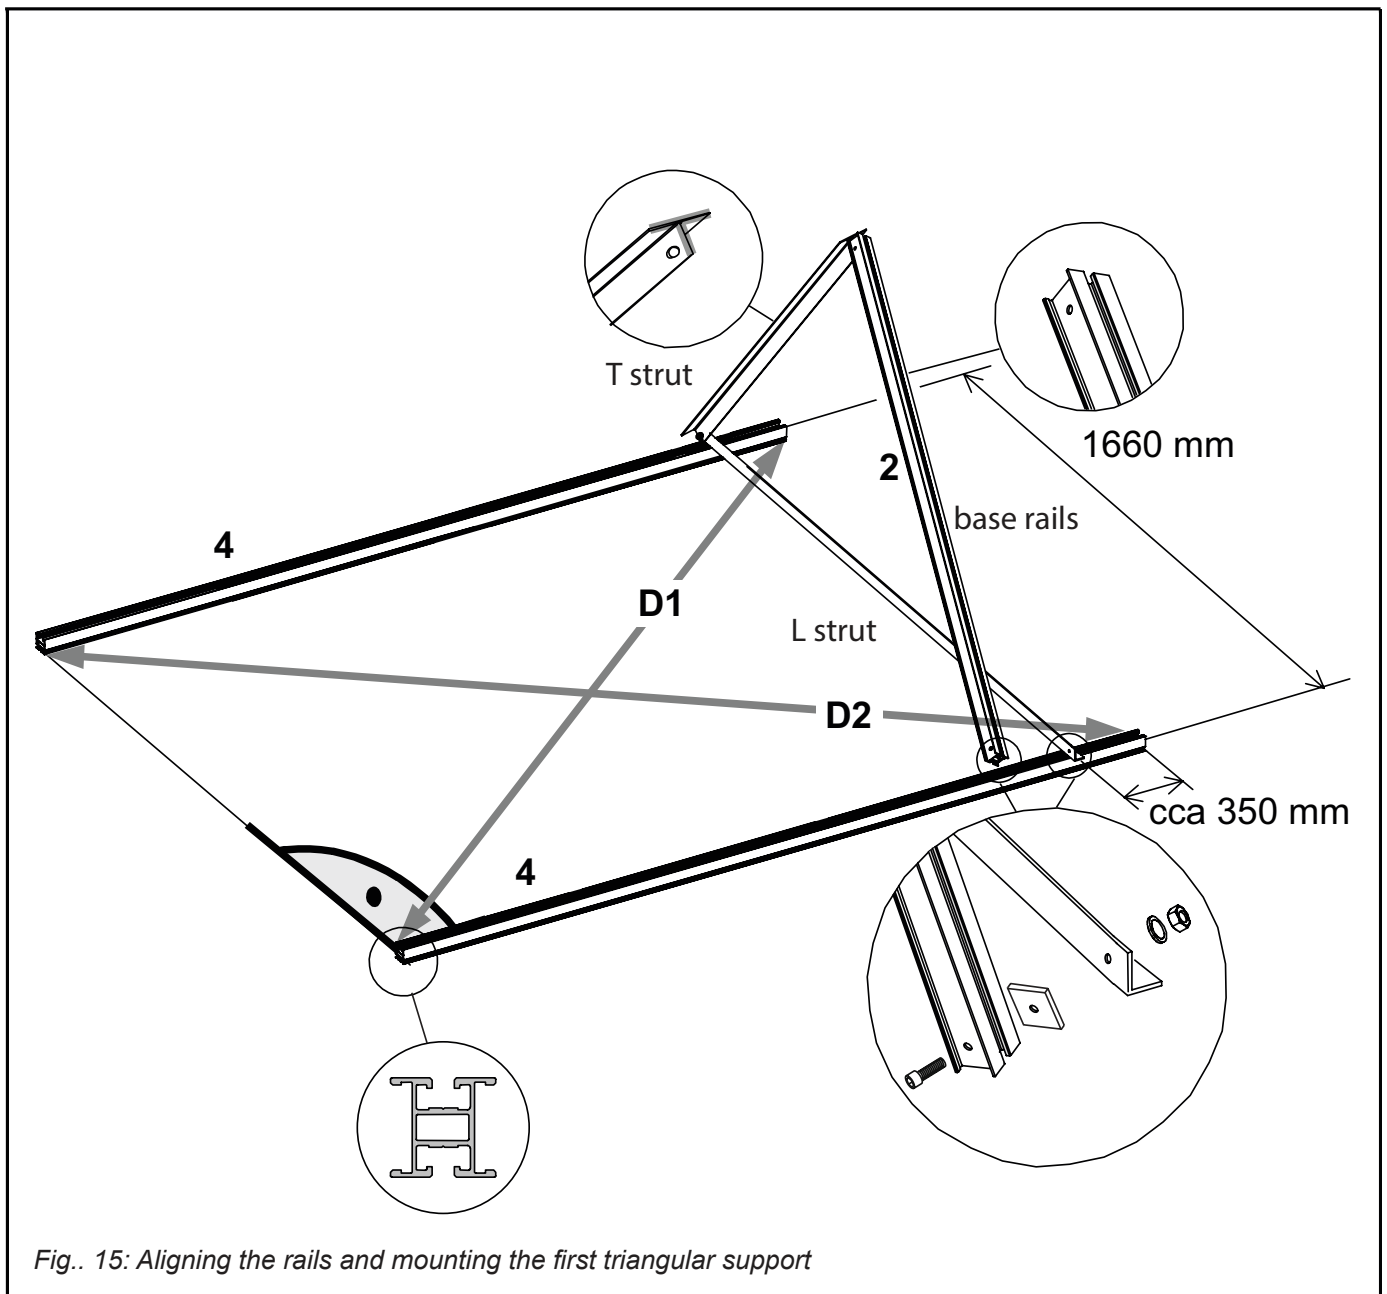

Fig.. 15: Aligning the rails and mounting the first triangular support
- The diagonals between the rails shall be of the same length:  $D1 = D2$  (Fig. 15)